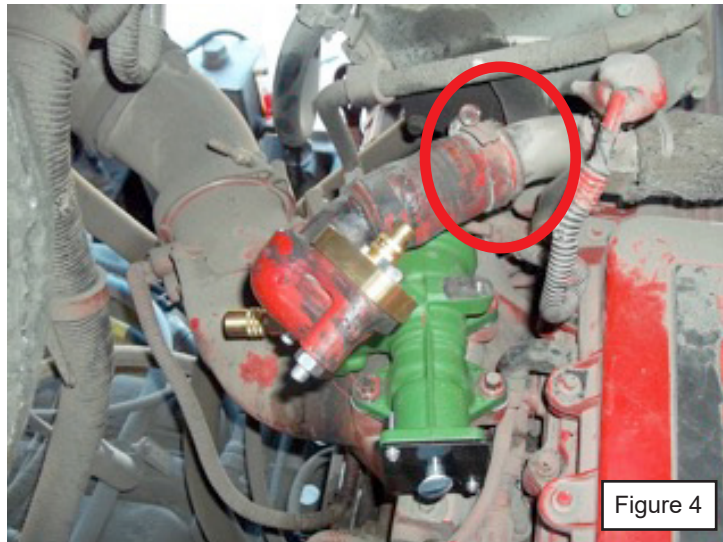

Figure 4
6. Install the EGR Intake Adapter (EEDF400-576) using the two 20mm bolts (98821336) at the EGR valve and install the EGR Exhaust Adapter (EEDF400-577) using the two nuts and 60mm bolts supplied, on the EGR cooler outlet pipe. Tighten EGR cooler outlet pipe clamp (see Figure 4).